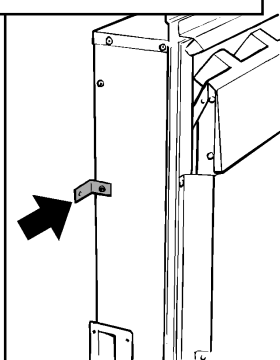

Figure 7
4.5 For transit purposes the wall fixing brackets are fitted to the convection box facing inwards. Remove the brackets and refit them with the long legs facing outwards (see figure 7).